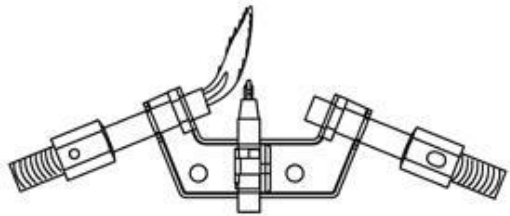

Figure 23 -Incorrect Pilot Flame Pattern
- Figure 23 shows an incorrect pilot flame pattern. The incorrect pilot flame is not touching the thermocouple. This will cause the thermocouple to cool. When the thermocouple cools, the heater will shut down.
- If the pilot flame is incorrect, as shown in Figure 23. Turn heater off (see To Turn off Gas to Appliance, page 19) See troubleshooting, page 22-24.
Figure 24 shows a correct burner flame pattern. Figure 25 shows an incorrect burner flame pattern. If pilot flame pattern is incorrect, as shown in Figure 23: